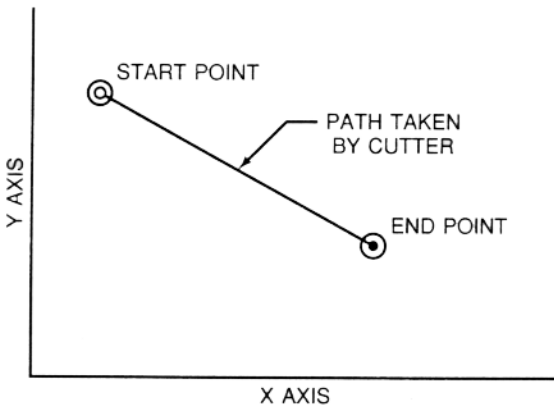

Fig. 11 An example of two-axis linear interpolation. (Kelmar Associates)
*Linear Interpolation* consists of any programmed points linked together by straight lines, whether the points are close together or far apart (Fig. 11). Curves can be produced with linear interpolation by breaking them into short, straight-line segments. This method has limitations, because a very large number of points would have to be programmed to describe the curve in order to produce a contour shape.